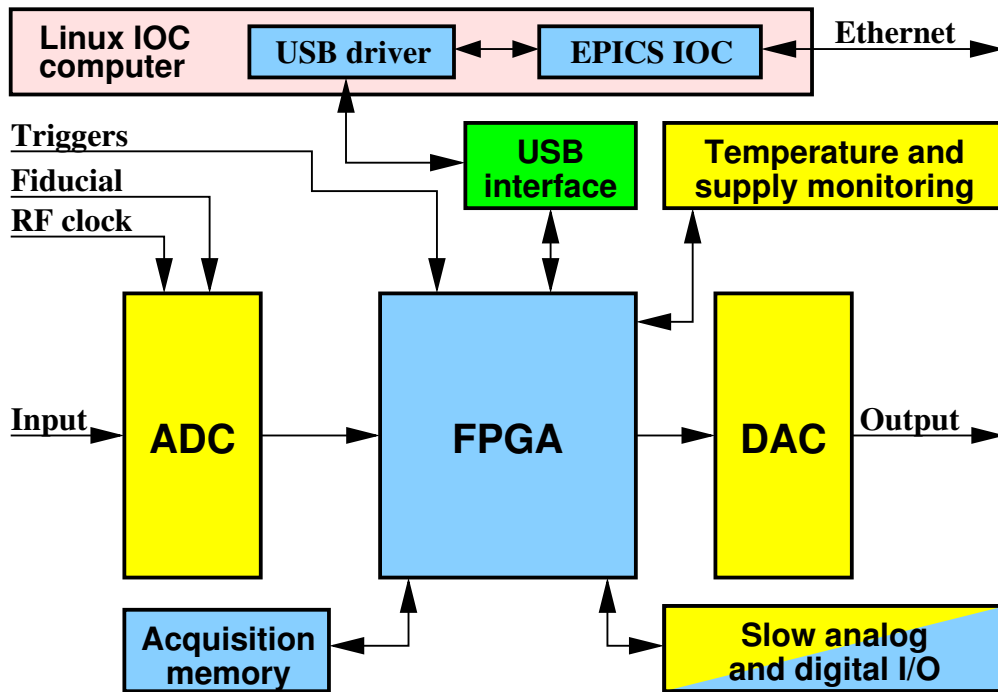

Figure 1: iGp12-592F block diagram
A top-level block diagram of the iGp12-592F system is shown in Figure 1. The main signal processing chain consists of a high-speed 12-bit analog-to-digital converter (ADC), a field programmable gate array (FPGA), and a high-speed 12-bit DAC, all driven by the radio frequency (RF) clock. In addition to performing real-time control computations, the FPGA interfaces to a number of on-board devices, such as high-speed data acquisition memory (static random access memory (SRAM)), low-speed analog and digital input/output (I/O), as well as temperature and supply voltage monitors. In turn, the FPGA uses an internal universal serial bus (USB) connection to communicate to an embedded input-output controller (IOC) computer housed in the same chassis. The IOC runs the Linux operating system and is connected to the overall control system via the Ethernet.